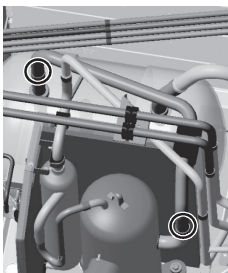

Figure 10
- (5) Remove the braze at the two areas on the accumulator outlet (suction) pipe. (See Figure 10.)